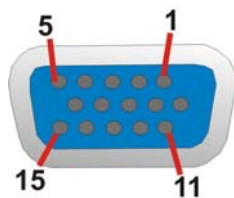

Figure 3-17: VGA Connector
- CN Pinouts:** See **Figure 3-17** and **Table 3-8**